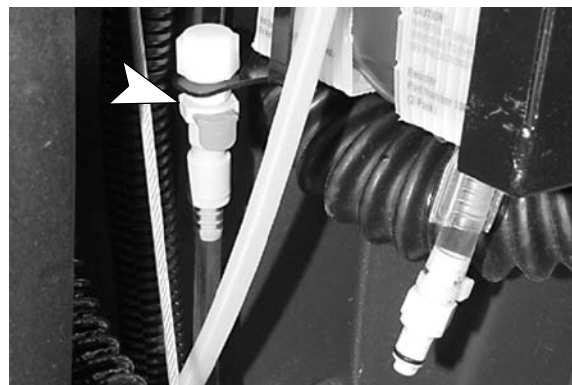

FIG. 35
- FaST Model: Connect the FaST-PAK supply hose to the storage plug when not it use (Figure 35). Remove any dried concentrate from the hose connector by soaking it in warm water.